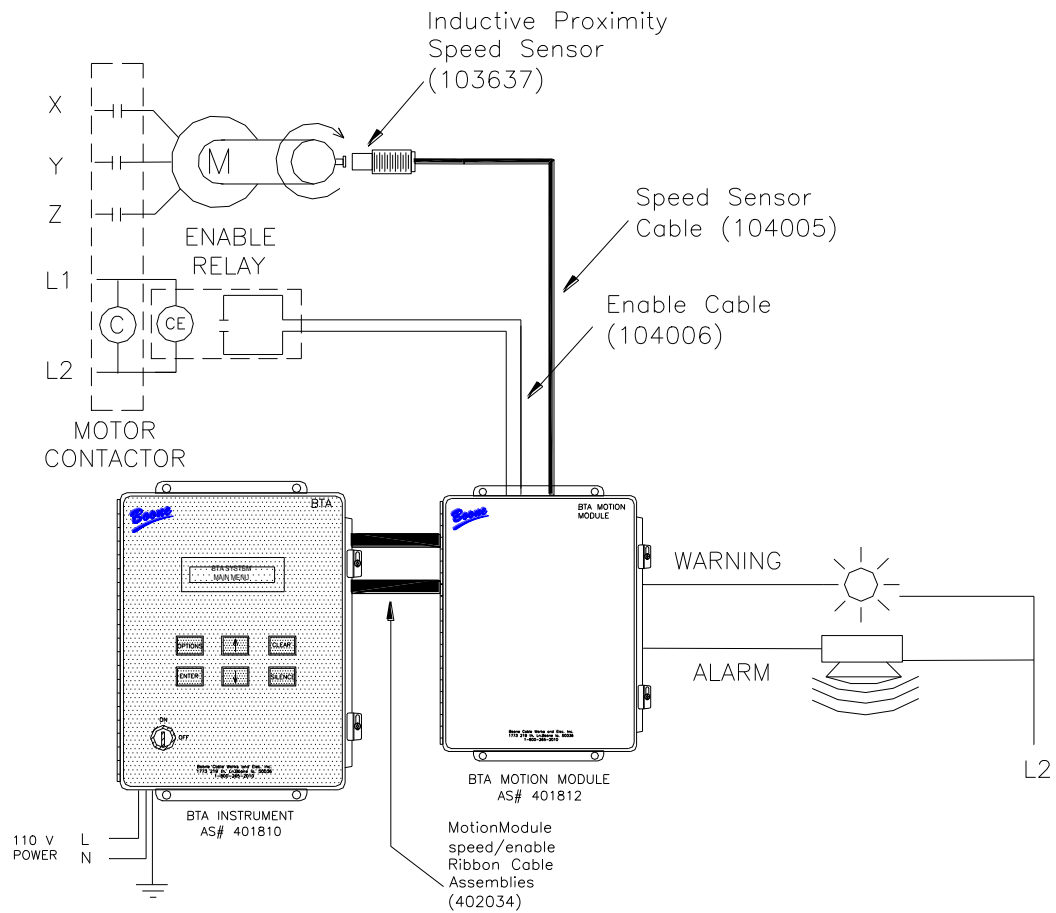

Figure 27 Basic Motion Module Connections
7.3.3. ENABLE RELAY The Enable Relay is put in place so that false alarms will not be read from equipment that is shut down (i.e. RPM=0 or decelerating) and let the BTA Instrument know when the equipment is powered and to consider speed readings valid. See figures 27 & 28. This relay energizes when the contactor for the motor driving the rotating equipment receives electrical power. The contacts on this relay are connected between the “Enable” and “COM” terminals of the *RPM-Speed Board*. This could be installed by a licensed electrician from locally purchased parts.
7.3.3.3. ENABLE CABLE (104008) is a shielded two conductor cable plus a drain wire. It provides an excellent way to connect the *RPM-Speed Board* to the Enable Relay. See figures 27 & 28.
7.4.1. CONNECTIONS For a general description of Motion Module connections see figure 27.